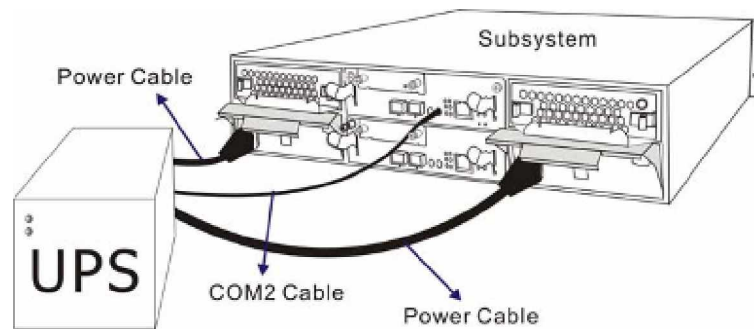

Figure D-2: Connecting the UPS to the MAGELLAN
The two (2) power cords shipped with the subsystem must be plugged into the power cord sockets in the rear of the PSU modules. The plug at the other end of the power cable must be inserted into a socket on the UPS. (See **Figure D-2**) Please refer to the UPS manual to determine the location of these sockets. The UPS must then be connected to main power.
The separately purchased audio-jack to DB9 serial cable connects the COM2 port on the controller module to the UPS directly. (See **Figure D-2**) The cable transmits UPS status updates to the controller module and will in turn determine the write policy of the controller module. To connect the serial communication cable to the subsystem controller, insert the audio jack connector on one end of the cable into the COM2 port on the controller module. To see how to connect the DB9 connector to the UPS, please refer to the documentation that came with your UPS.